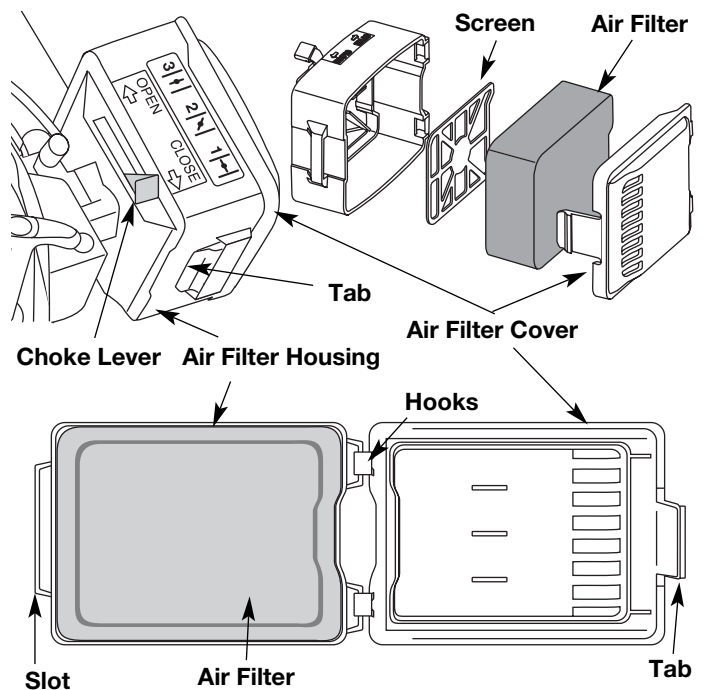

Fig. 22
1. Open the air filter cover. Push the tab on the left side of the cover in, swing the air filter cover out and off the air filter housing (Fig. 22).
2. Remove the air filter and the screen that sits behind it (Fig. 22).
6. Replace the filter (Fig. 22).
- Reinstall the air filter cover. Position the tabs on the sides of the air filter cover onto the slots at the top of the back plate (Fig. 22).
- Push the cover in until the tab on the air filter backplate snaps into place in the slot on the air filter cover (Fig. 22).